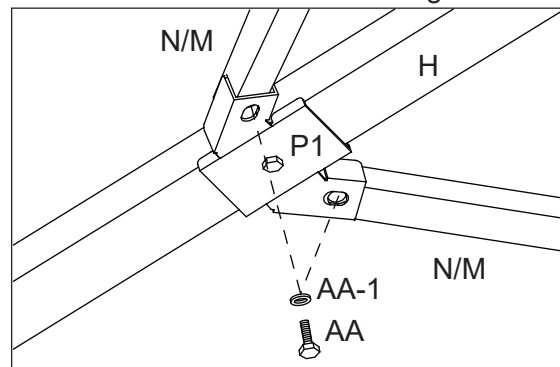

Figure 10-4
10.4: Attach the Horizontal Main Roof Supports (N, M) to the Connector (P1) using Bolts (AA) and washer (AA-1). See Figure 10-4.